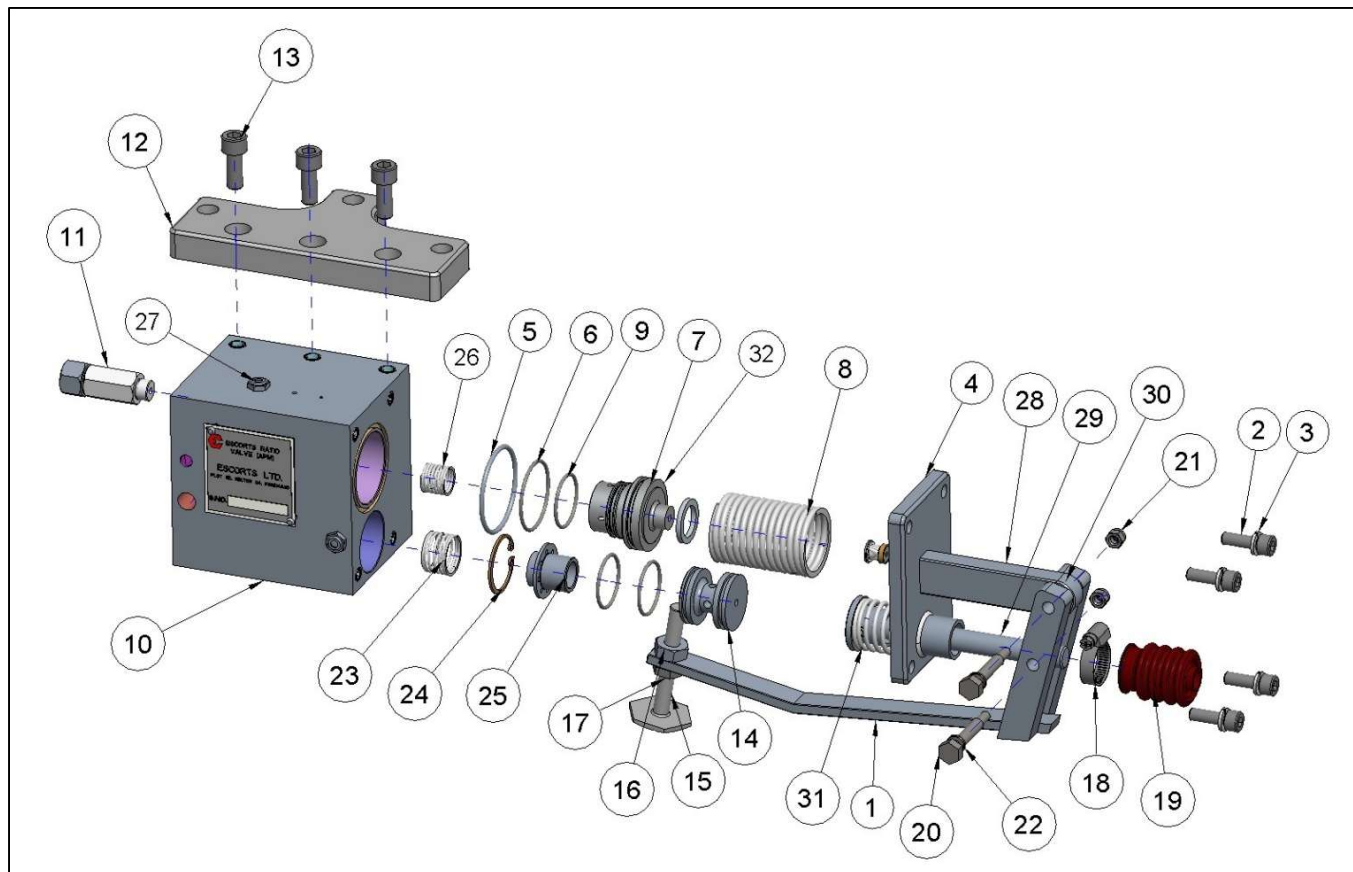

Figure 19: Exploded view of ERV/APM device
2.6 ADJUSTMENTS OF ERV/APM DEVICE (Ref. Fig. 19)